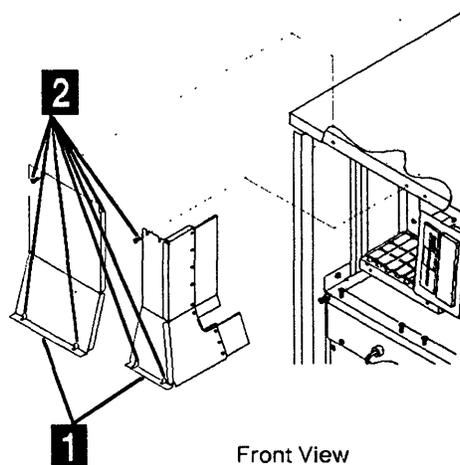

Figure 4-118. MOSS Board Covers
6. Take away the covers of the MOSS board **1**. (7 screws must be removed **2**). Refer to Figure 4-118.